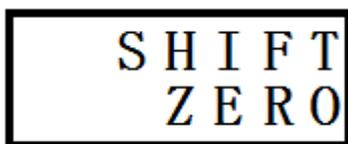

Figure33
7.2 Start and browse the menu and then select" SHIFT" " ZERO" menu item, as shown in Figure 33;
7.4 Enter "Confirm" once to clear the message and return to menu, the screen will display as shown in Figure33;